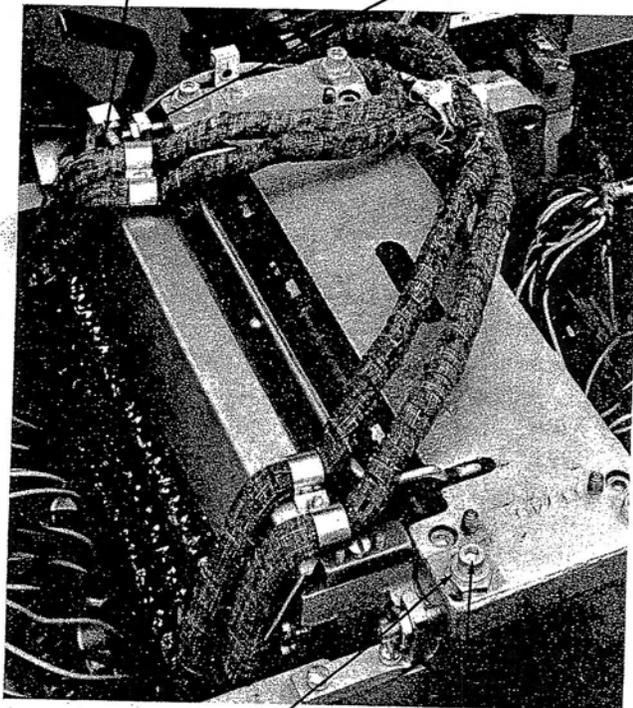

Figure 3-31. Punch Unit Adjusting Screws
- a. Loosen four holding screws on top of punch unit. See Figure 3-31.
- b. Loosen locknut on horizontal adjusting screw and turn adjusting screw to permit shifting punch unit in direction required to correct horizontal registration. See Figure 3-31.
NOTE: Punch unit on this type of side frame requires four, two-inch long bushings (P/N. 607770) in top plate. See Figure 3-31.
- NOTE: Punch unit installed on this type side frame requires four, half-inch, hex-head bushings 610093 in top plate. See Figure 3-31.